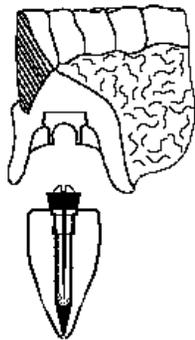

Fig.5 Cap Incorporation
Caution!! Again, do not remove the colored rubber band around the base of the overdenture attachment until *after* the attachment cap is incorporated into the denture. If you do, the acrylic could lock into the undercut of the ball and prevent removal of the denture from the mouth. The rubber band prevents this from occurring (Fig. 5).
5. The laboratory places the transfer stud in the impression and pours it up in stone or plaster. (Fig. 5)